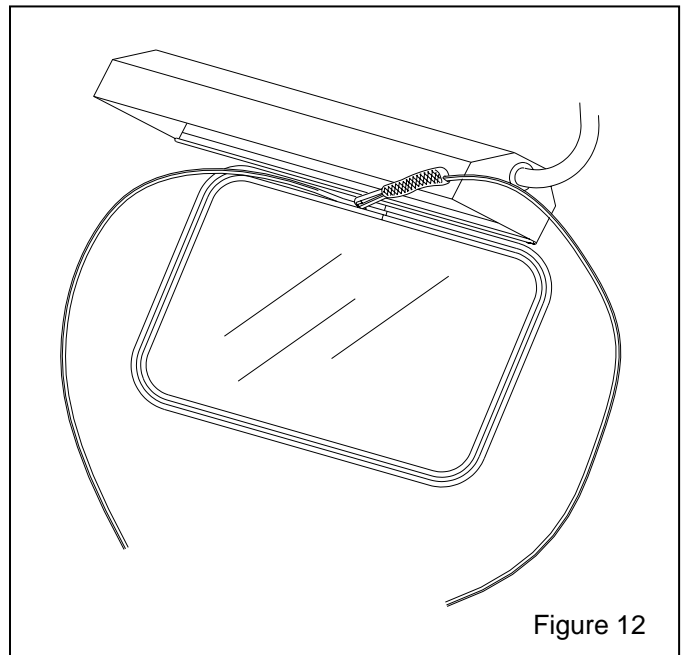

Figure 12
6.3.9. Insert the end of the installation tool and filler strip into the filler strip channel of the molding, about two inches to the left of the window molding ends, as shown in Figure 12. The rounded side of the filler strip faces up.